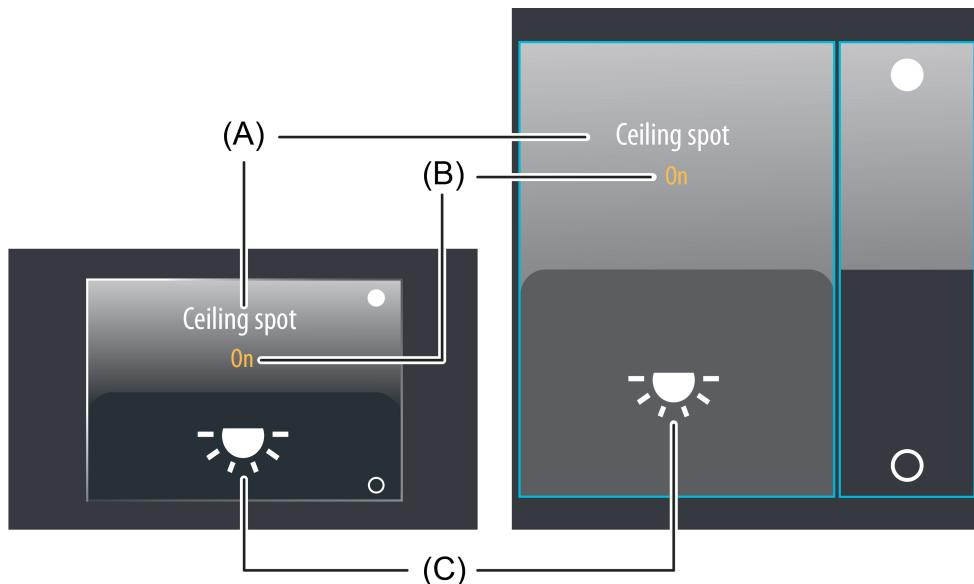

Figure 23: Example of an operating and display element of the function "Switching"
The display area contains different display elements (figure 23) that are influenced by parameters. A name can be assigned to each KNX function in the configuration software (A). This text name is centred in the display element for display whereby controllable KNX functions are identified for the user (e.g. "ceiling spot"). In addition, a status text (B) can be displayed below the name, which visualises different texts (e.g. "Off" / "On" or "Absent" / "Present") in the display depending on the object value of the switching status feedback ("0" / "1"). After a device reset, the display shows "—" until a feedback object value of the status text is received or predefined.